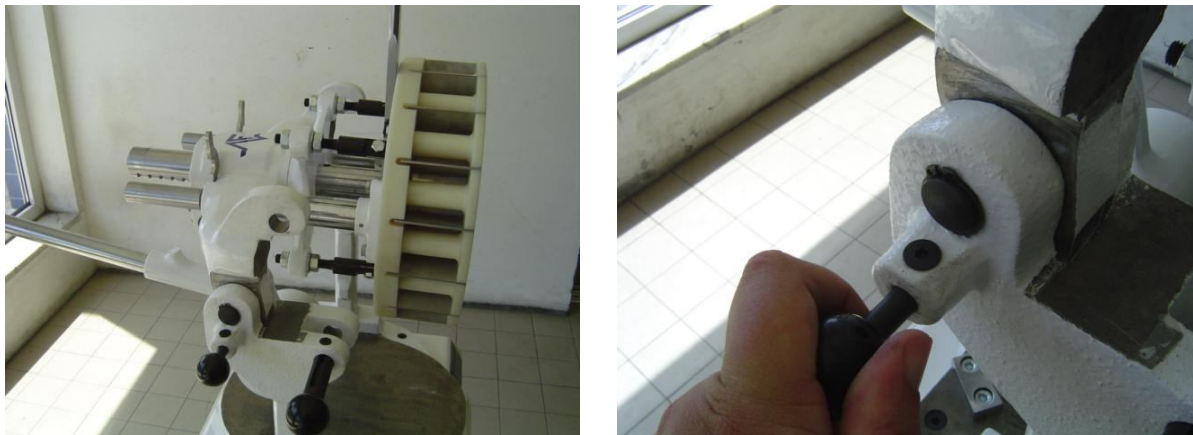

Figure 11
- Lift the machine's head and press the pin in figure 11 to keep the machine open.